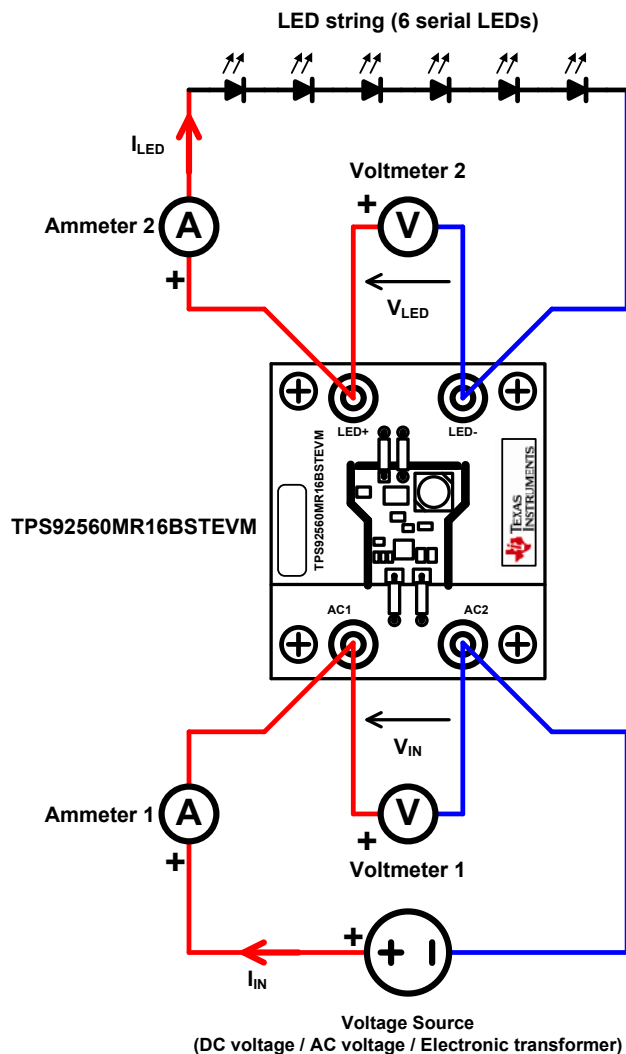

Figure 4. Connection Diagram of the TPS92560MR16BSTEVM
- Connect an LED string of 6 serial LEDs to the terminals LED+ and LED– of the EVM. An external ammeter (Ammeter 2) can be used in series to the LED string as shown in Figure 4 to measure the RMS LED current.
- Connect the power source (a 12- V_{DC} power source, 12- V_{AC} power source or electronic transformer) to the terminals AC1 and AC2 of the EVM. An external ammeter (Ammeter 1) can be used in series to the power source as shown in Figure 4 to measure the RMS input current. Do not make the connection when the power source is turned on.